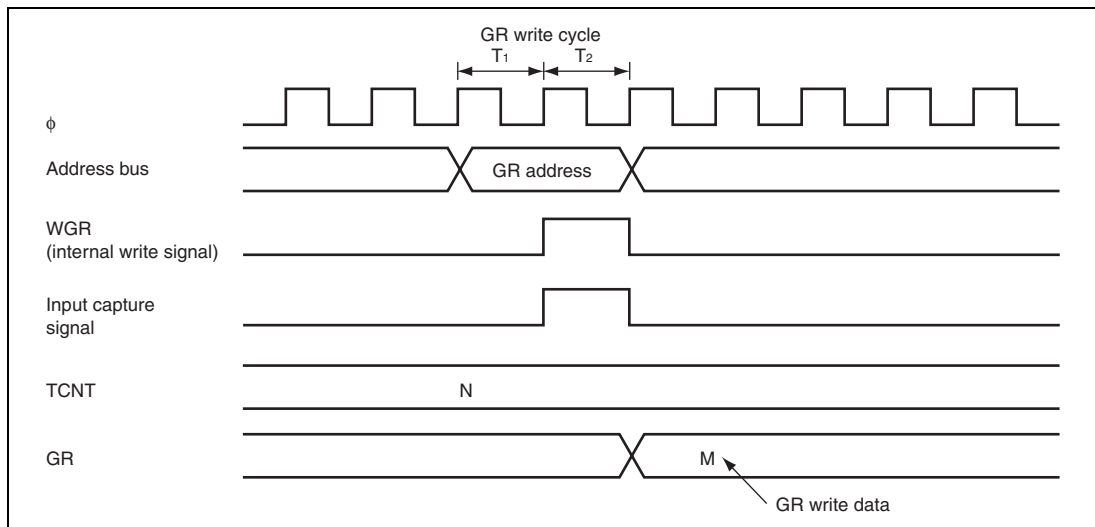

Figure 12.58 Contention between GR Write and Input Capture
7. **Contention between GR Write and Input Capture:** If an input capture signal is generated in the T_2 state of a GR write cycle, the input capture operation has priority and the write to GR is not performed. Figure 12.58 shows the timing in this case.